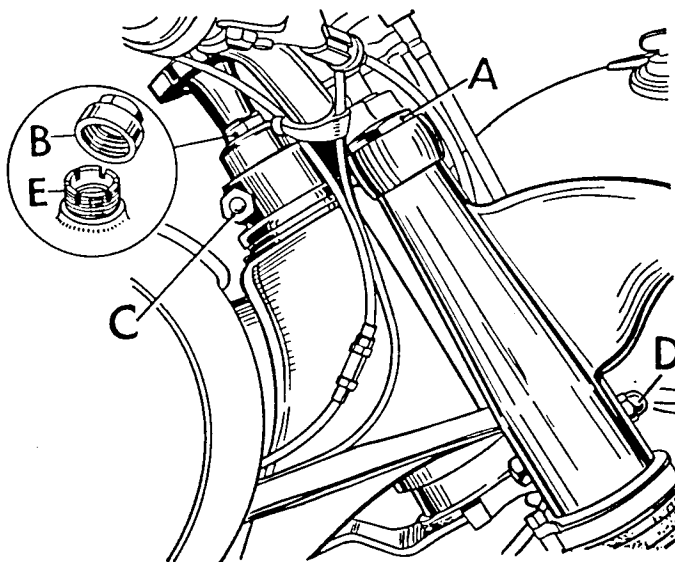

FIG. E.1. *Steering head adjustment.*
To adjust the steering, remove the damper rod then the top cap (B) Fig. E.1, to expose the adjuster sleeve (E).
Drain the oil from the forks as described on page A.13. Screw service tool No. 61-3350 (minus the large nut and washer) into the top of the fork leg and slacken off the pinch bolt in the bottom fork yoke (D) Fig. E.1, page E.3.